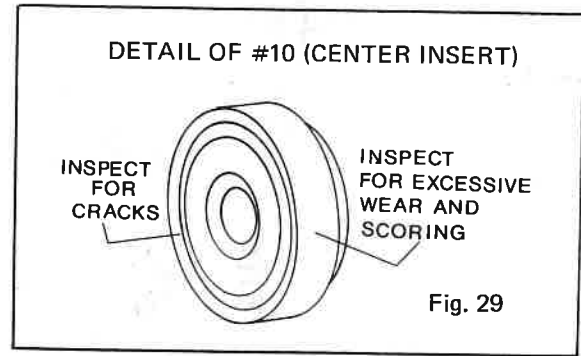

Fig. 29
6. Lift off (#10) and inspect for cracks and edge wear. (See inset) Fig. 29